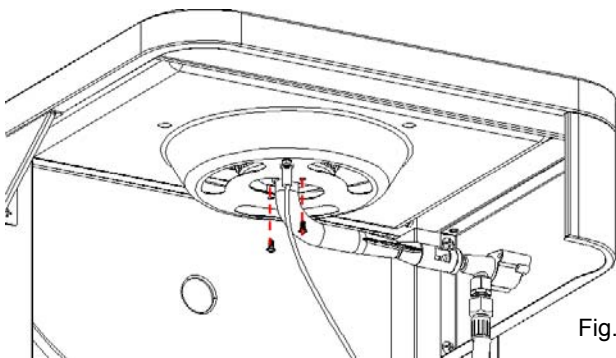

Fig. 16G
Attach the Side Burner to the Side Burner Shelf Assembly using (2) bolts removed from Step 15B as shown as Fig. 16G.